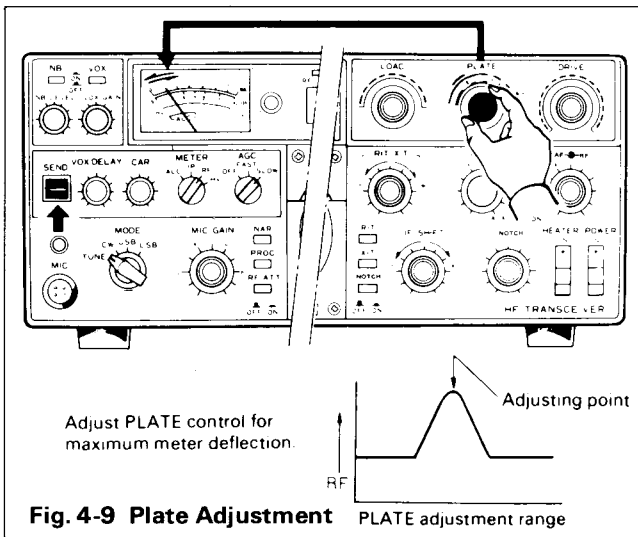

Fig. 4-9 Plate Adjustment
- Place the meter switch to Ip and dip the PLATE. Dip will be typically only about 5 ma. (or to RF and peak the plate) Fig. 4-9
(4) CW OPERATION (Fig. 4-9)